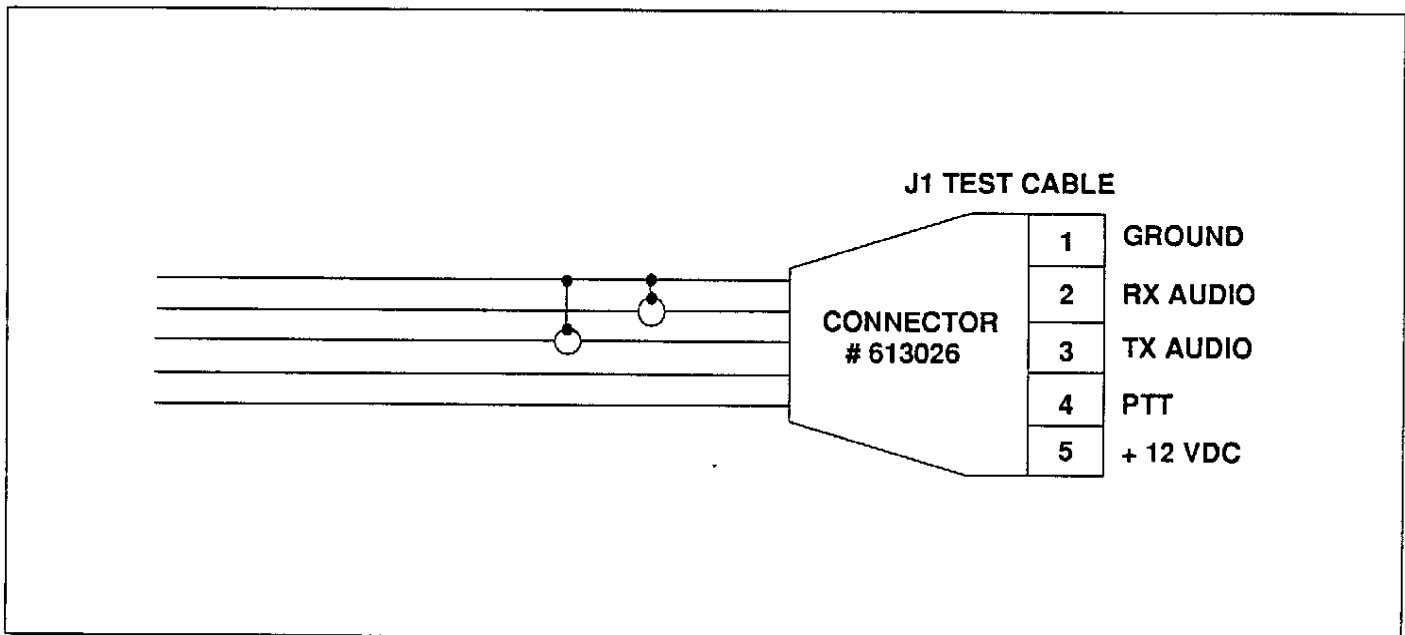

FIGURE 6. Telephone Coupler Test Cable.
5. Telephone coupler test cable (shown in Figure 6.)